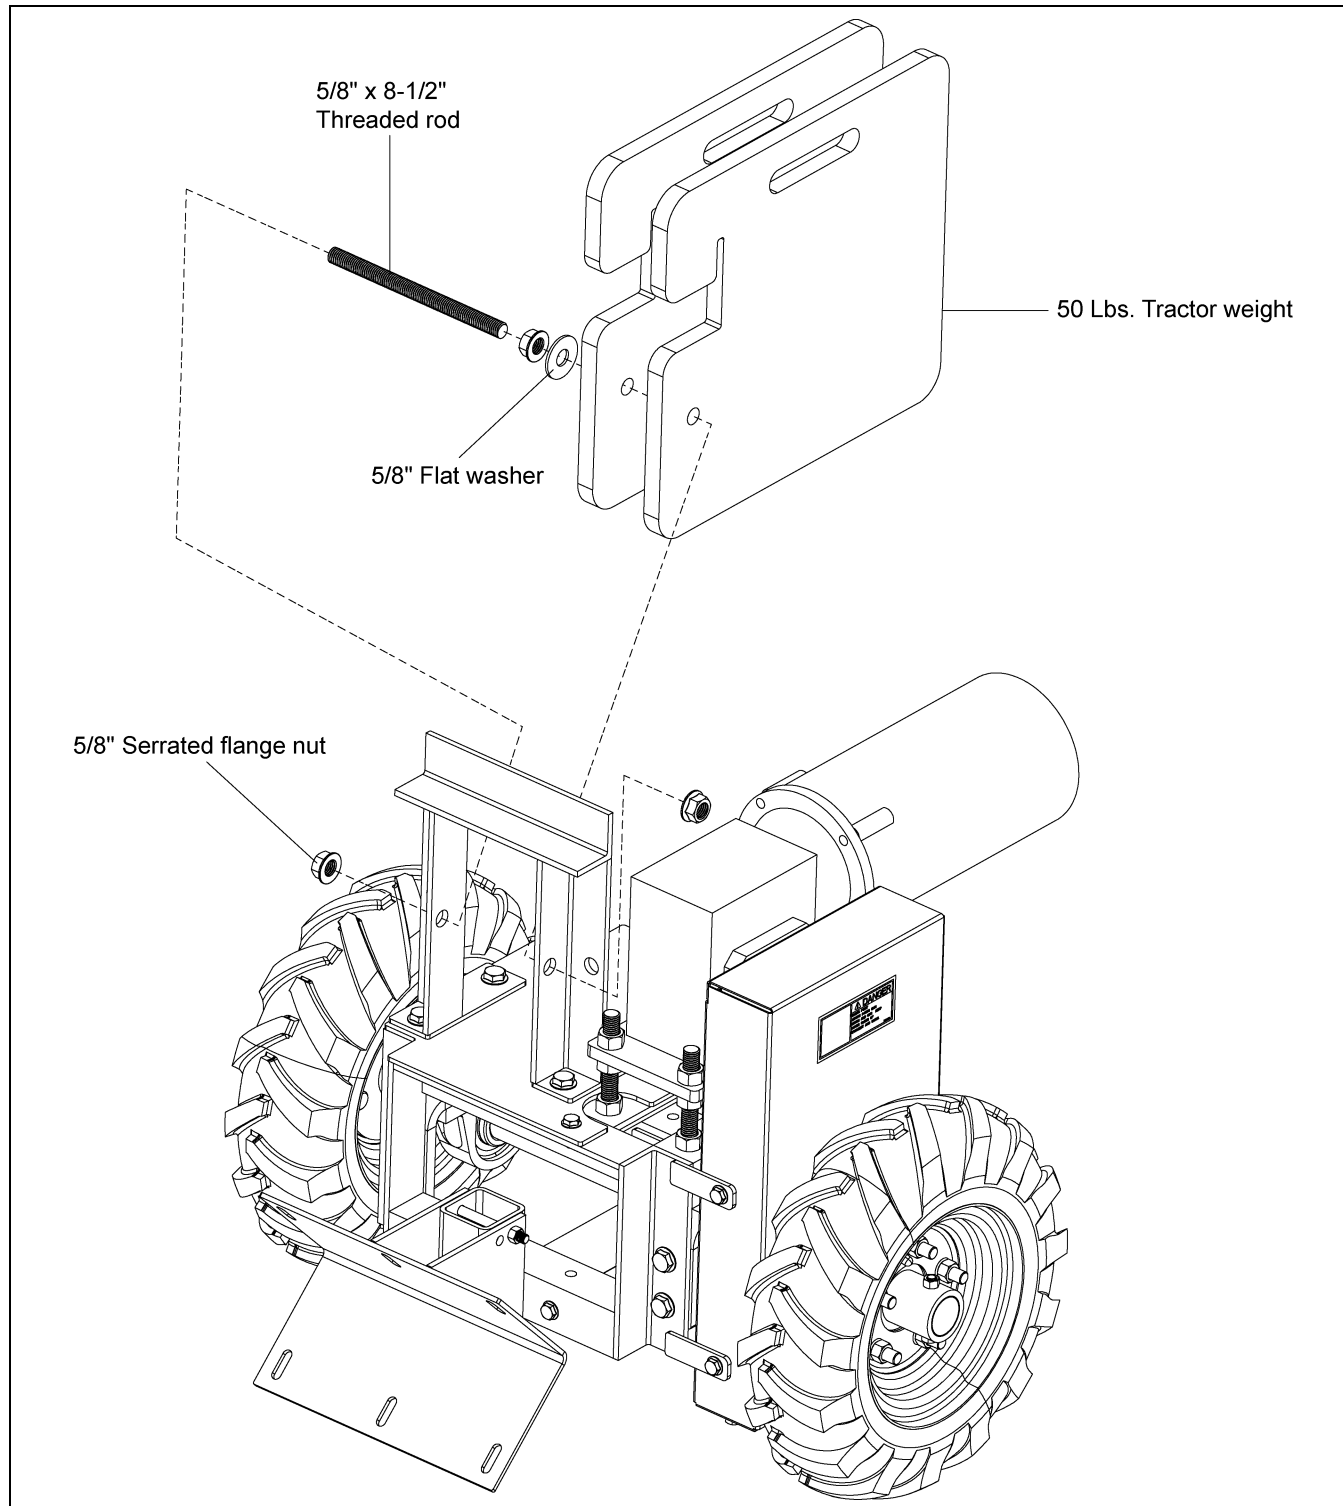

Figure 4K
21. Mount the weights to the weight stand using one 5/8"-11 x 8-1/2" threaded rod and three (3) flange nuts and one flat washer. (See Figure 4K.)